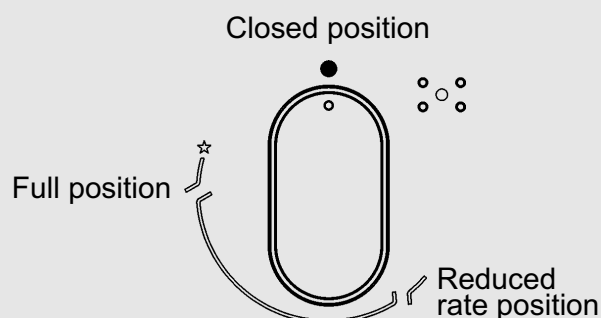

FIG. 22
Push and turn the knob corresponding to the required burner in an anticlockwise direction until it reaches the full on position (large flame fig. 22), then depress the knob.
The knobs of burners equipped with flame failure device must be turned in an anticlockwise direction until they reach the full on position (large flame fig. 22) and come to a stop. Now depress the knob in question and repeat the previously indicated operations.
- When the pan comes to the boil, set the knob to the reduced rate position (small flame fig. 22).
- **burners with flame failure device may only be ignited when the relative knob has been set to the Full on position (fig. 22).**